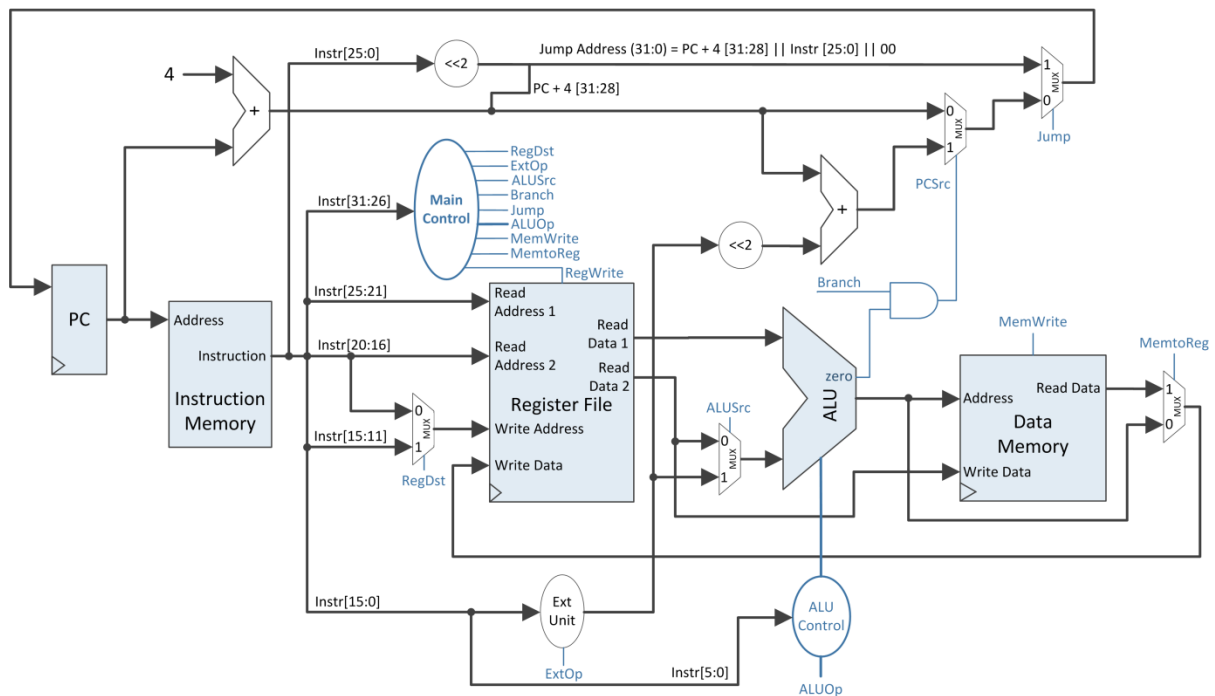

Figure 5-1: MIPS 32 Single-Cycle Data-Path + Control
- Data-Path for MIPS 16 – paper and pencil (Laboratory 4 Assignment 4.3.3; use **Figure 5-1** from this laboratory as reference, or lecture 4 for more details)